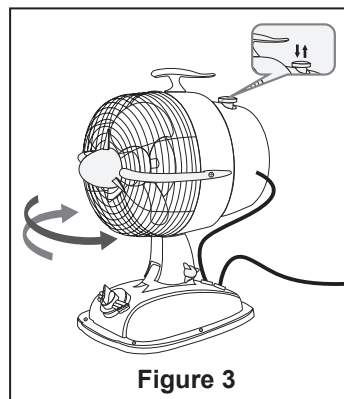

Figure 3
3. Pull up on the oscillating knob for non-oscillating operation. Push down on the oscillating knob for oscillating operation. (Figure 3)